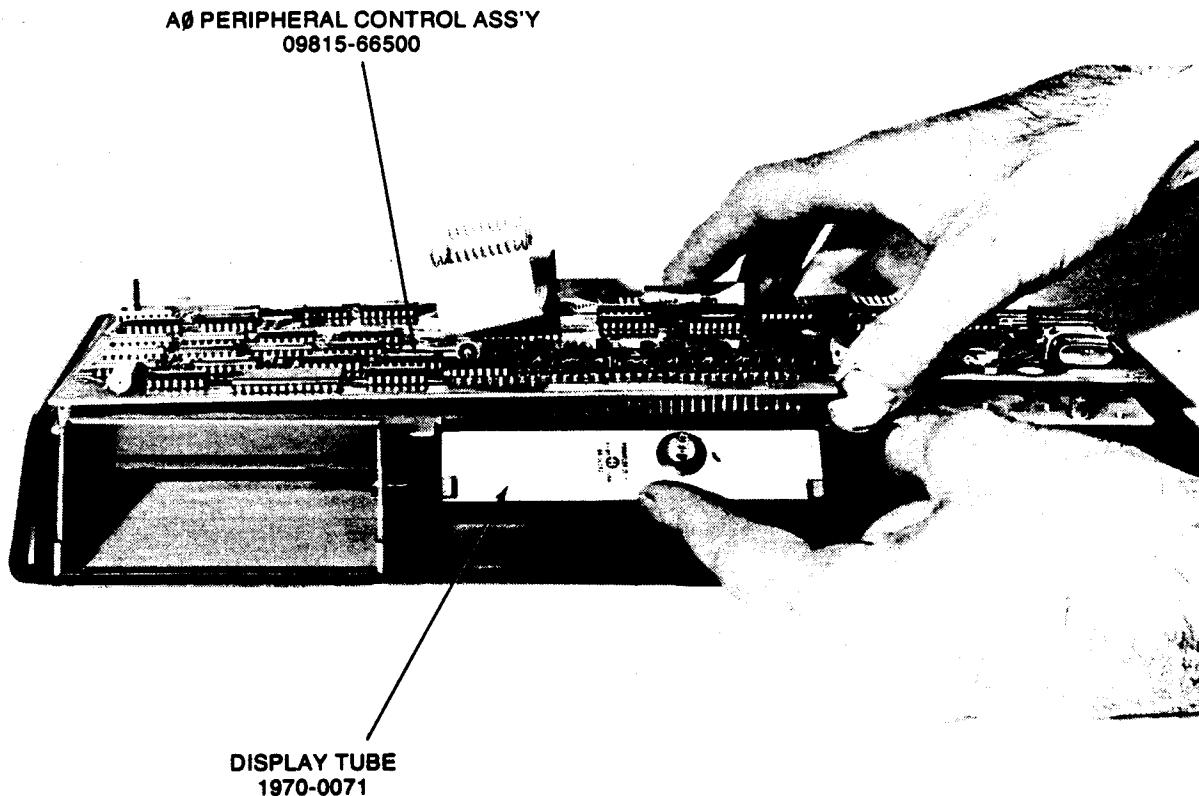

Figure 2-4. Removing the Peripheral Control Assembly
- Carefully guide the display tube out of the display window guides (see Figure 2-4) and remove the A0 assembly.